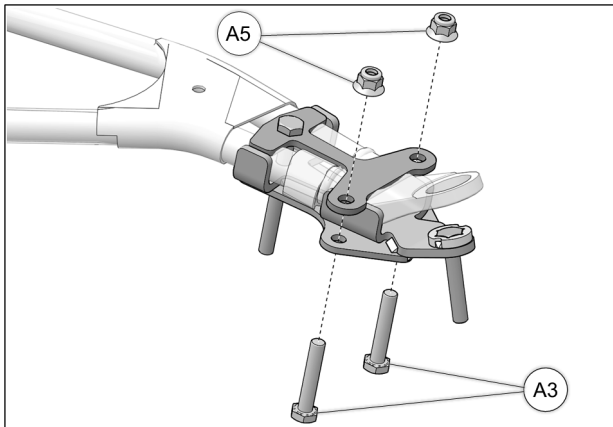

Fig. 16
7. Insert the M10x55 mm bolts (A3) through the bottom as shown below and secure the two parts together with the nuts (A5) provided. Tighten assembly to 50 N•m [37 lb•ft] of torque. See Fig. 16